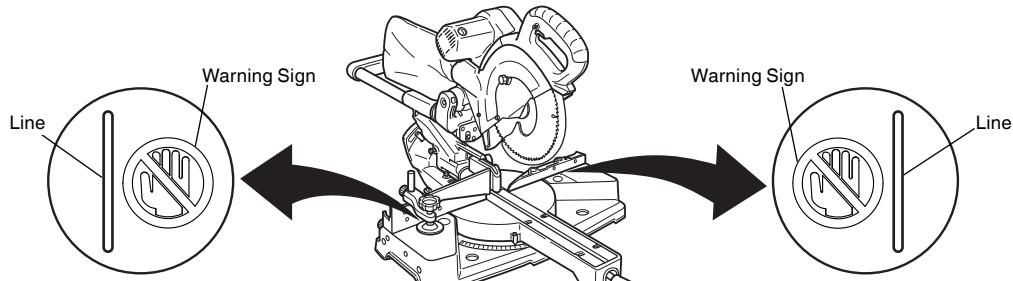

Fig. 22
- * Never place your limbs inside of the line next to warning sign while the tool is being operated. This may cause hazardous conditions (see Fig. 22).